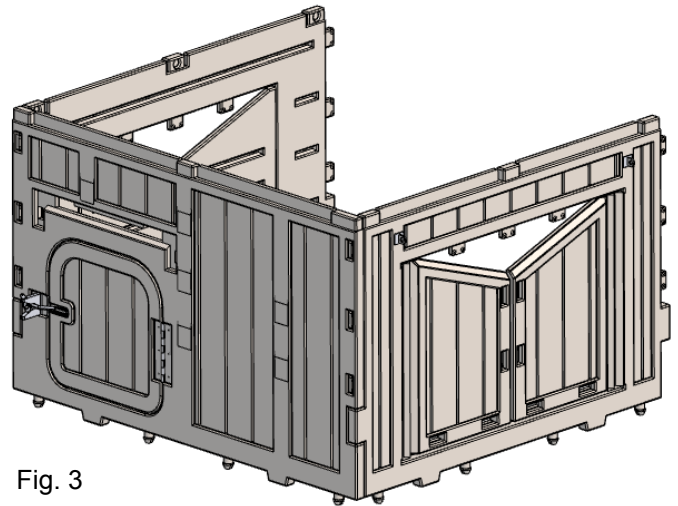

Fig. 3
Step 3: Assemble the Front Wall to the other Nest Side Wall by aligning, and then inserting the tabs on the Nest Side Wall into the slots of the Front Wall. (Fig. 3)